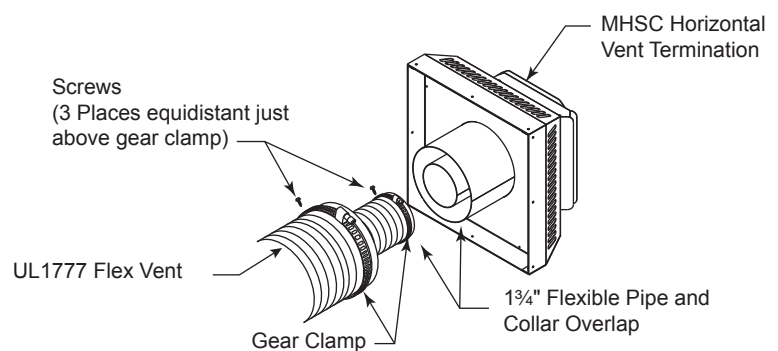

**Figure 40 -
1. Connect the 5" flexible vent to the horizontal termination as in *Figure 40*.
2. Connect the 8" flexible vent to the termination ring as in *Figure 40*.
3. Review *Figure 40* for proper overlap and clamp placement.
5. Use only listed and approved terminations and accessories, installed per the termination instructions and *Figure 40*.